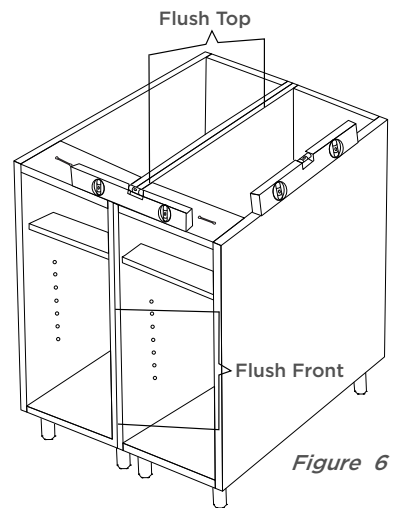

Figure 6
- Place the next cabinet in the installation adjacent to the previously leveled cabinet (Figure 6).